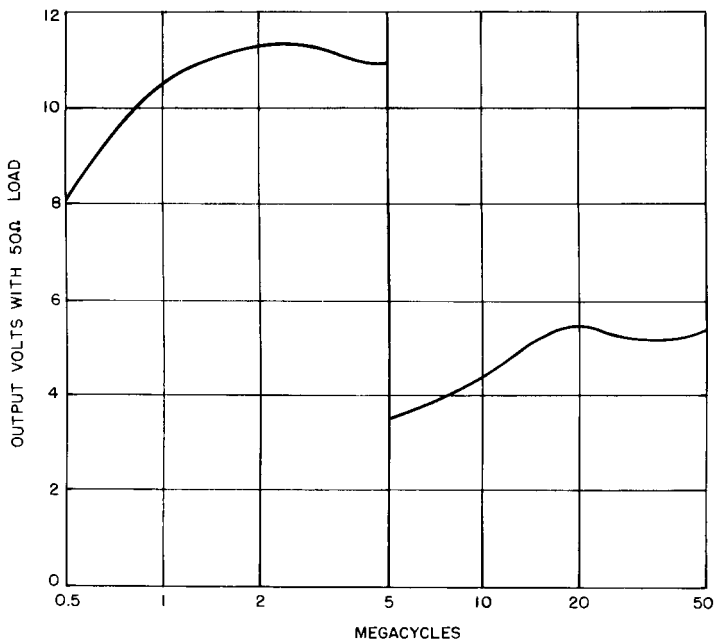

Figure 2. Typical Characteristic Curves.
1.2.2 OUTPUT CONTROLS AND TERMINALS. The output is controlled by a small dial at the rear of the instrument. The dial is calibrated in arbitrary units, with maximum output at full clockwise rotation of the dial. Typical characteristic curves of output voltage with a 50-ohm load are shown in Figure 2. If the load is excessive, the instrument may stop oscillating unless the output control is set back far enough to reduce the coupling to the load.